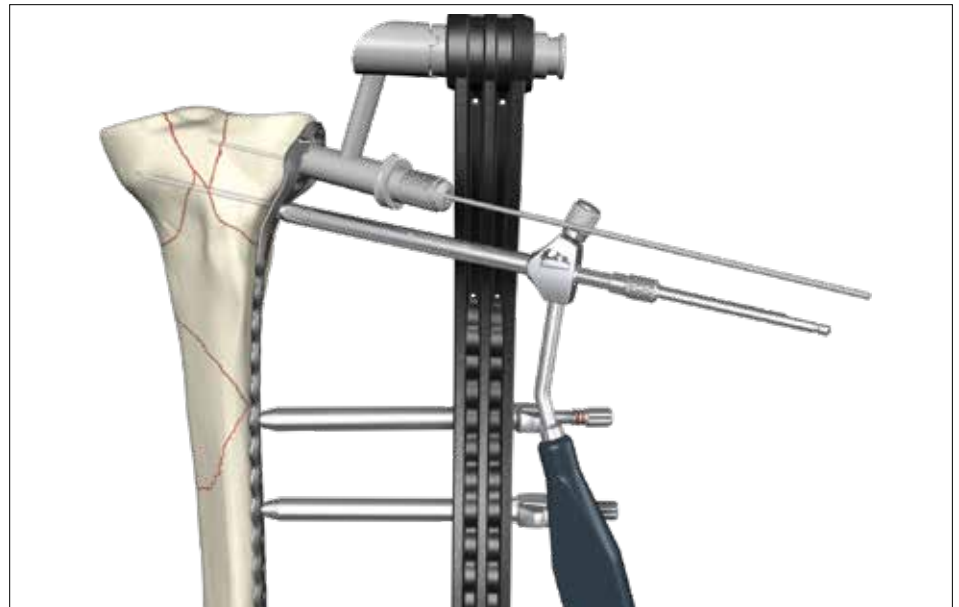

Fig. 13
Remove the sleeve assembly and the K-wire in the posterior metaphyseal hole. Disconnect and remove the aiming block. Freehand placement of a lag screw can now be performed using the freehand tissue protection sleeve (ref 702920) together with the drill sleeve Ø2.5mm (ref 703572) and the sleeve fixation screw (ref 703591). Using the calibrated drill Ø2.5mm (ref 703586), drill the core hole to the appropriate depth (fig. 13). The screw length can directly be read off the calibrated drill or using the screw scale (ref 703587) as described under the measurement options on page 7. Over-drill the first cortex using the cortical opener Ø3.5mm (ref 703590) through the tissue protection sleeve. A fully threaded cortical screw can then be inserted through the tissue protection sleeve. If inserting a Ø4.0mm cancellous screw, the near cortex should be pre-tapped using the cancellous tap (ref 703589). Care must be taken that these screws do not interfere with the locking screw trajectories. This is done by using locking drill sleeves (ref 703791) with K-wire sleeves (ref 703575) and K-wires (ref 703583).